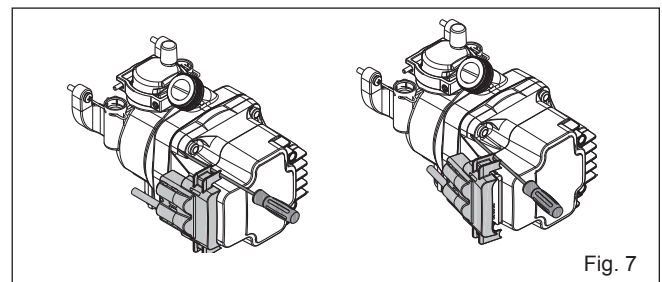

Fig. 7
- to extract the connector holder, lever with a screwdriver as shown in Fig. 7
- refit the cap and press key 1 to select the type of operation desired.